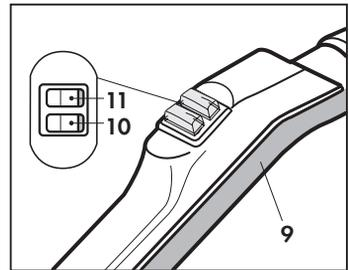

Fig. 13
**ERGONOMIC HANDLE (Q) (Fig. 13)**
- The ergonomic handle (Q) (9) is fitted at one end of the work hose (Q) and may be connected either to one of the extension tubes (U) or directly to an accessory.
Before attempting to clean any carpets or textiles, discharge any condensation that may be left in the appliance by pressing the red switch (10) located on the handle (9) of the work hose (Q) (Fig. 13).
**Before cleaning any textile surface, discharge any condensation by pressing the red switch (10) located on the handle (9) (Fig. 13). During the cleaning stage, do not interrupt steam delivery.**